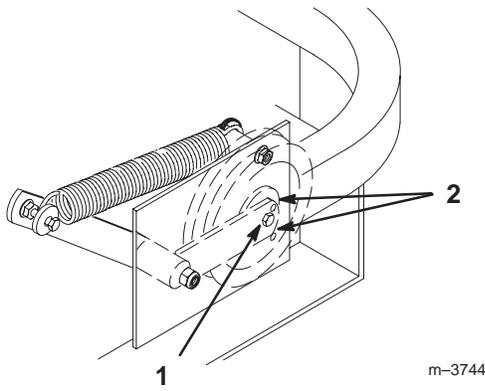

Figure 60
8. Check the belt tension. The center bolt of the spring loaded idler must be between the two alignment holes in the left support plate (Fig. 60).
10. Check the belt tension again. The center bolt of the spring loaded idler must be between the two alignment holes in the left support plate (Fig. 60). Adjust it, if necessary, and tighten all hardware securely.